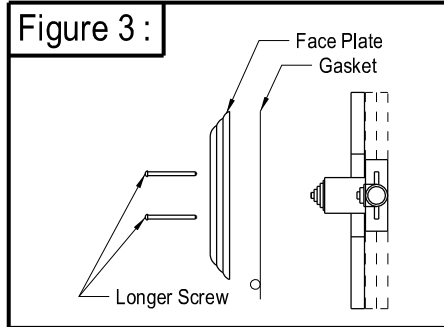

Figure 3 :
5. Use adjustable wrench to tight lock nut clockwise direction. (Fig.3)
Unscrew the screws on the plastic plate and remove the plastic plate. Mount gasket onto the back of face plate. Install the diverter handle into the diverter hole of the face plate. Secure the diverter handle by threading the nut onto the face plate as illustration. Position the face plate onto the valve body and thread the longer screws provided tight. Please see Figure 3.